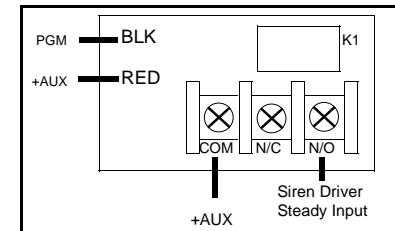

FIGURE 6 KEYFOB/KEYSWITCH CHIRP
(1) Audio Verification - Program to activate the PGM during reporting. Select specific zones for audio verification by programming the required zones in *PGM Output* [08], *PGM Features 2* [24] and *PGM Features 3* [25]. Connect the PGM to the Veriphone™ trigger low input.
(2) Access Output - Activates the PGM output for 5 seconds using the **[FUNCTION] 3** command.
(3) Follow Keypad Sounder - The following keypad sounds will activate the PGM output: Entry Sounder, Keypad Pulsing Sounder, Keypad Output on Alarm, Chime, Fault Find.
(4) Keyfob/Keyswitch Chirp - Program to chirp the PGM Output (1) one time when the panel is armed or (2) two times when the panel is disarmed. Wire as shown in Figure 6.